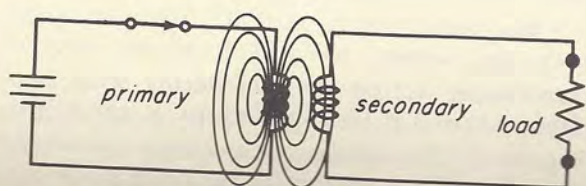
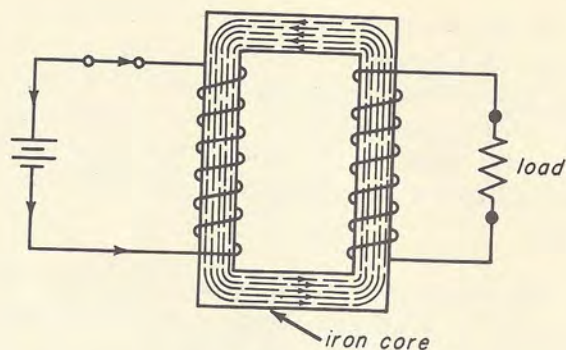

Fig. 12-26
Fig. 12-27
A single conductor does not have as strong a field as does a coil. In order to increase the flux (and the induced emf), we can use a pair of coils, as in Fig. 12-26. The number of flux lines formed in this transformer depends on the number of turns in the primary and the amount of current flowing in the primary winding.
**Leakage Flux.** Look at Fig. 12-26. Notice that only part of the flux lines actually cut the secondary. As a result, the greater number of flux lines are wasted because they do not contribute to the induction of voltage in the secondary. We call this *leakage flux*. In order to reduce the amount of leakage flux to a minimum, some transformers are wound on iron cores, as shown in Fig. 12-27. When this is done, practically all of the flux lines formed by current flowing in the primary cut the turns of the secondary. As a result, there is little or no leakage flux.